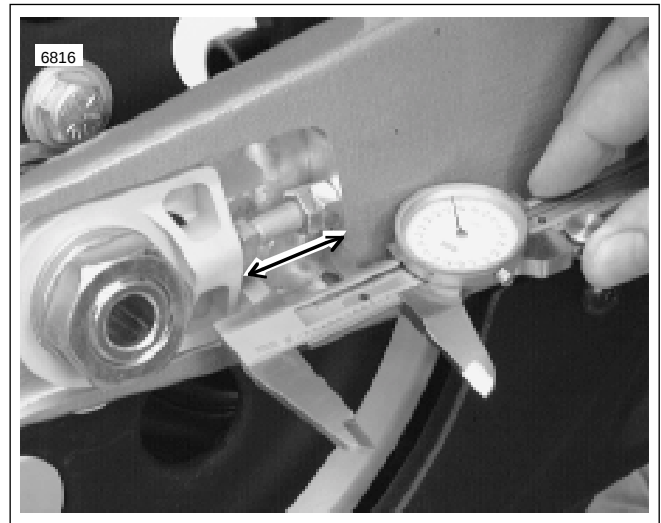

Figure 1-25. Checking Rear Wheel Alignment, Right Side Shown
1. See Figure 1-25. Measure each side from the flat of the axle carrier to the flat of the swingarm.